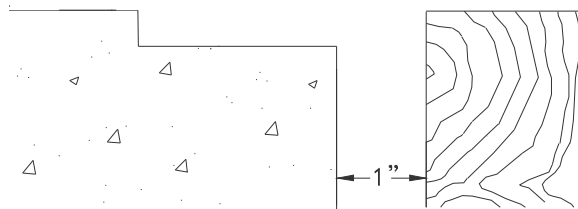

Figure 2
STEP 2. Provide blockouts in the pre-existing joint edge for Balco, Inc. Expansion Joint Covers in accordance with the approved shop drawings (see Figure 2). Inspect the blockouts to see that they are flat, level and clear of all debris. Prepare and clean the blockouts as needed. Ensure that the blockouts are of adequate width and depth for proper installation of the joint covers.